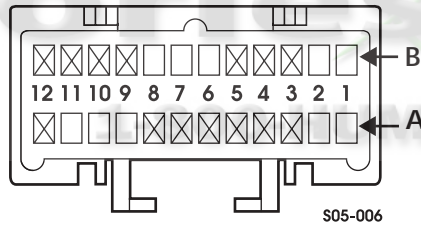

Figure 5-15: 24-Pin Connector
- Oil pressure gauge at line pressure tap (Figure 5-15)
Table 5-14 and Table 5-15 with Figure 5-15 and Figure 5-16 shows the end view of the connector and calls out the active circuit names.